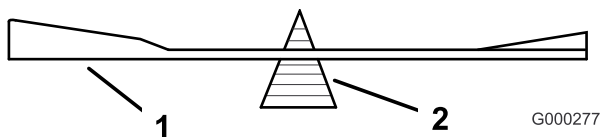

Figure 77
2. Check the balance of the blade by putting it on a blade balancer (Figure 77). If the blade stays in a horizontal position, the blade is balanced and can be used. If the blade is not balanced, file some metal off the end of the sail area only (Figure 74). Repeat this procedure until the blade is balanced.